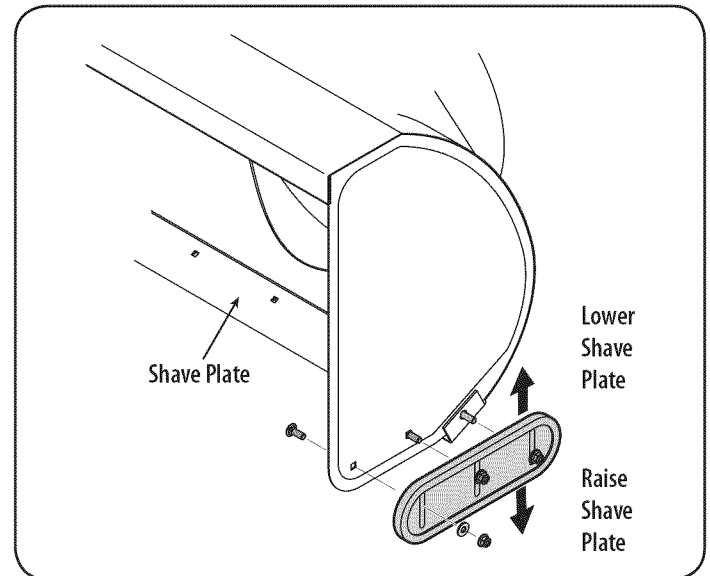

Figure 11
1. Adjust skid shoes by loosening the six (three on each side) hex nuts, flat washers, and carriage bolts securing the skid shoes to the auger housing. Refer to Figure 11.
2. While observing the distance between the shave plate and the ground, adjust the skid shoes up or down to achieve the desired shave plate height. See Figure 11.